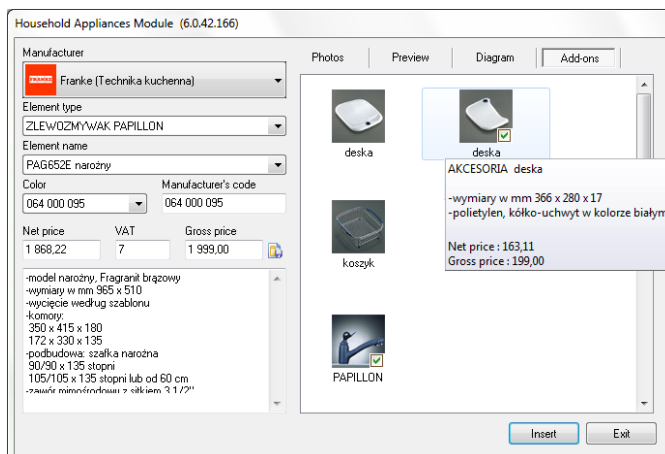

Fig. 248 – additions for a particular model
- additions (optional) — can be inserted together with the household equipment (they need to be 'ticked' ☒ - otherwise they will not be inserted) (Fig. 248).